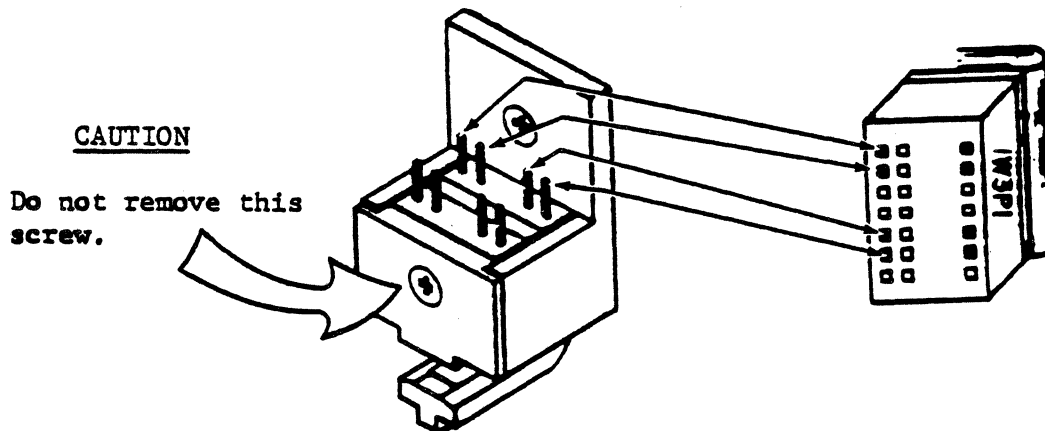

Figure 6-12. EOT/BOT Sensor
2. Disconnect W3P1 plug from EOT/BOT assembly (see figure 6-12).